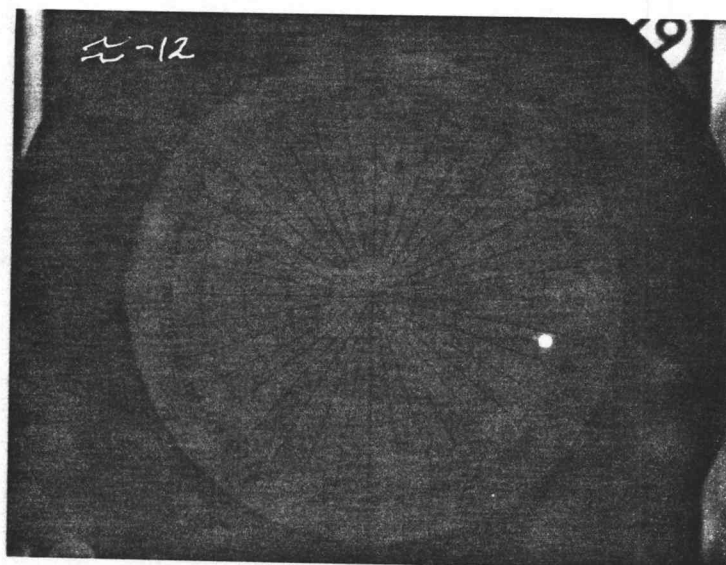

Fig. 5
- C. Move mode switch to phase on 8418A and record data. See fig. 5 for example.